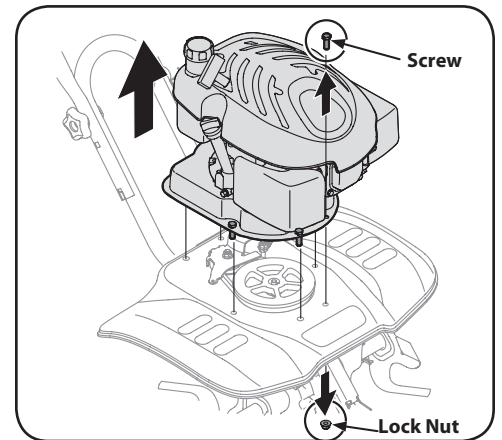

Figure 5-3
1. Remove the belt cover and engine by removing the six screws and lock nuts holding the engine and cover to the shield. See Figure 5-3.